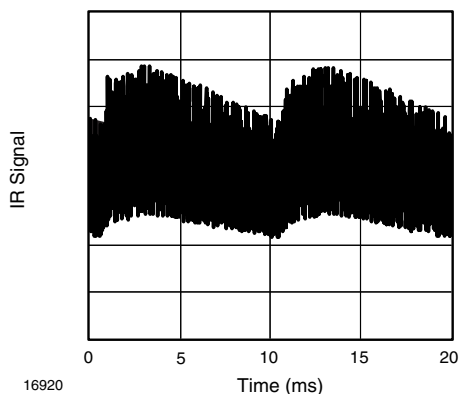
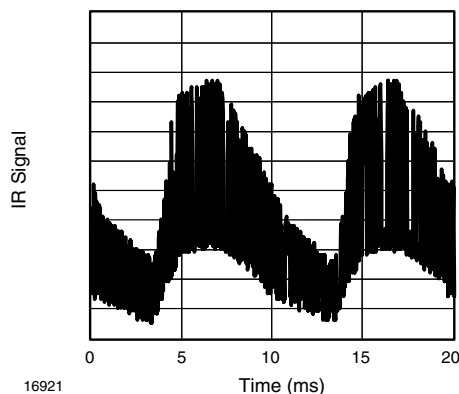

Fig. 14 - IR Signal from Fluorescent Lamp with Low Modulation
Fig. 15 - IR Signal from Fluorescent Lamp with High Modulation
- Modulated IR signals from common fluorescent lamps (example of noise pattern is shown in fig. 14 or fig. 15)